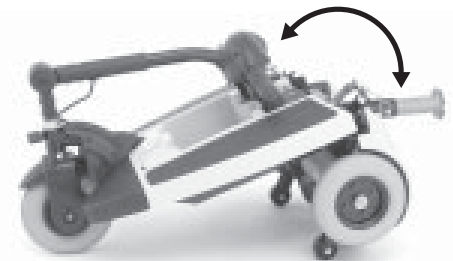

FIGURE 20. FRAME POSITIONING
1. Push back on the seat post to pivot the scooter's rear section rearwards until the rear section is standing vertically on its rear bumper. See figure 20.
3. Holding the seat post, slowly pivot the rear section forward until the curved locking brackets are fully connected onto the top rear pegs. See figure 20.